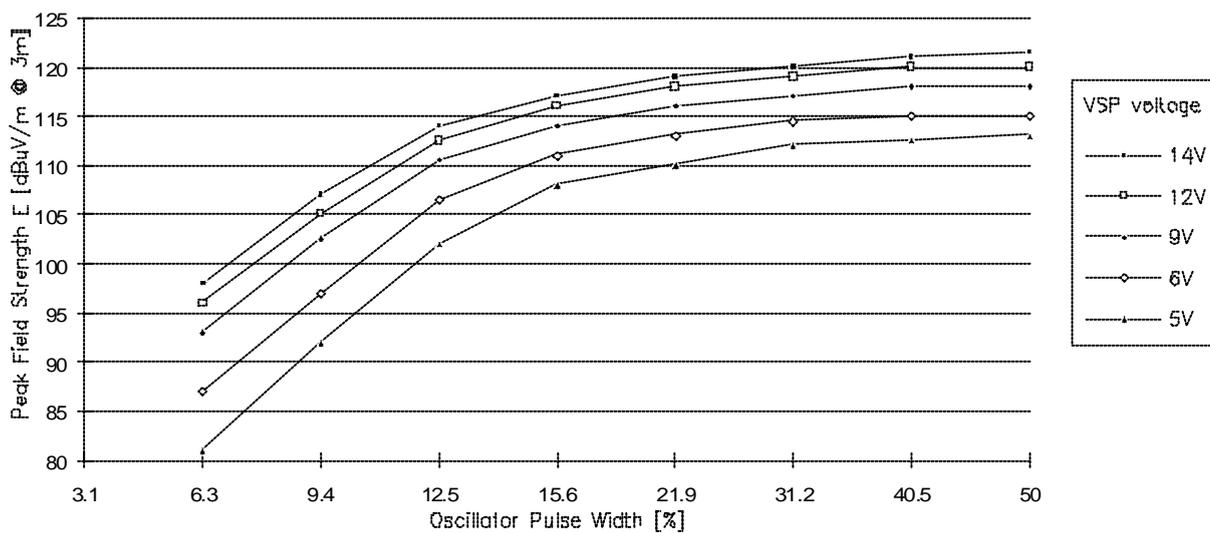

Figure 30: Field Strength Compared to Pulse Width for Antennas RI-ANT-S01C & S02C (Typical Values)
In summary: the generated field strength of an antenna can be adjusted with the supply voltage VSP of the RF module transmitter power stage **and** by selecting the corresponding oscillator signal pulse width. Figures 30 to 33 show **typical** field strength values for all TIRIS standard antennas for different oscillator signal pulse widths and different transmitter power stage supply voltages.
- * Find out the oscillator signal pulse width needed for this antenna type, this transmitter power stage supply voltage and the corresponding FCC/PTT value in figures 30 to 33. Select corresponding pulse width on the RF module.